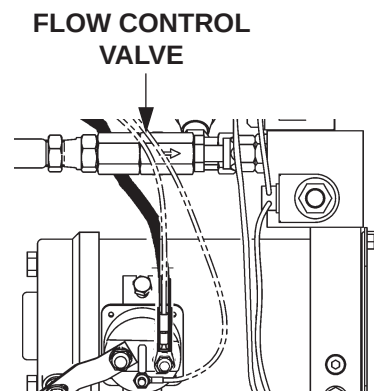

FIG. 52-3
3. Check and clean Flow Control Valve (**FIG. 52-3**) in high pressure hydraulic line connected to Pump. When installing Flow Control Valve make sure arrow on valve is oriented as shown in **FIG. 52-3**.